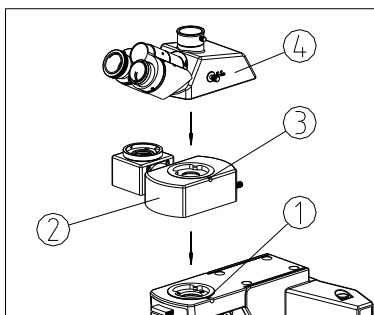
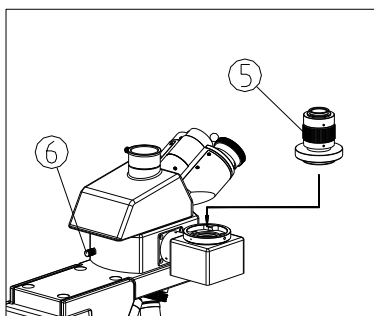

Fig. 30
Fig. 31
(1) Loose the lock-screw ① completely. (See Fig. 30)
(2) From a little right position, insert the coattail interface on the bottom of intermediate optical splitter ② into the hole on the stand with a little left inclined, and keep the TV device interface on the left side of the body. Then screw down the lock screw ①.
(3) Loose the lock-screw ③ completely.
(4) Insert the middle coattail on the bottom of the head ④ to the round hole of the intermediate optical splitter from its center a little right. Keep the two eyepiece tubes ahead. Screw down the lock-screw ①.
(5) Insert the TV device ⑤ into the intermediate optical splitter ② as shown in Fig. 31. See **3-17 Assemble and Use the TV Device** for more details.
(6) For binocular observation, pull the light path selecting pole ⑥ to the outmost and observe the image. If the image is unclear, rotate the adjustment tube until it is clear.